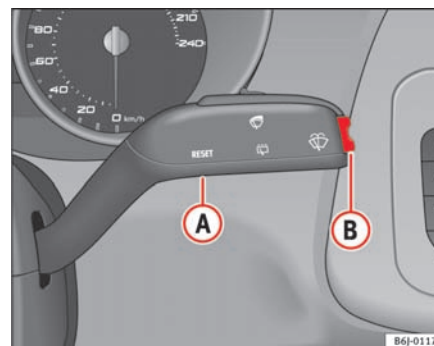

Fig. 32 Windscreen wiper lever: button A and rocker switch B
- With the ignition switched on, briefly press the button ⇒ fig. 32 (A) in the windscreen wiper lever to change the memory.